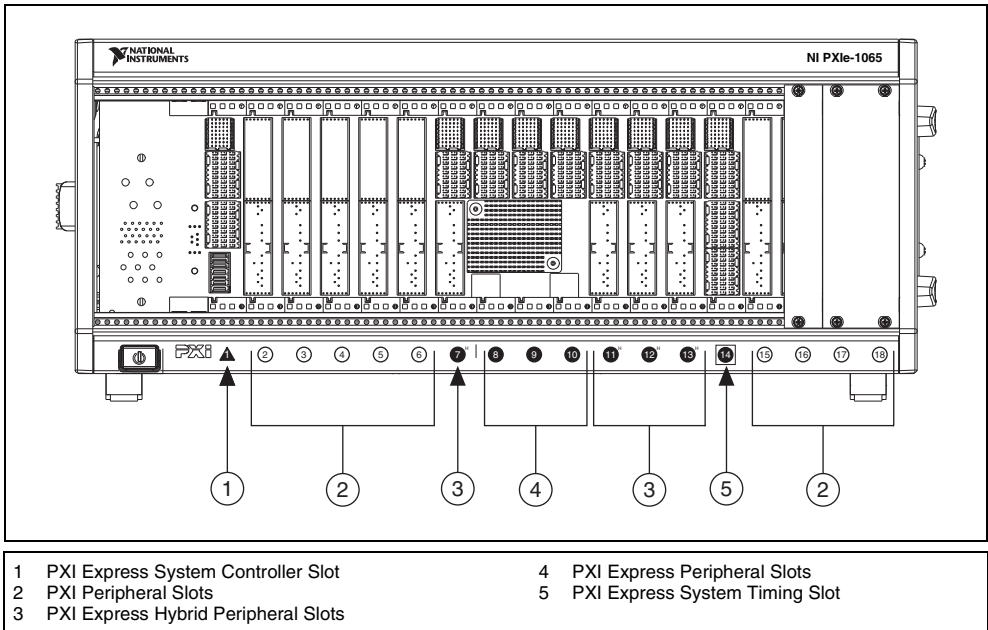

Figure 1. Symbols for PXI Express/PXI Express Hybrid/PXI Slots
3. Identify a supported PXI Express slot in the chassis. The NI 1435 is compatible with PXI Express slots, PXI Express Hybrid slots, and PXIe System Timing slots. Figure 1 shows the symbols that indicate the slot types for a PXI Express chassis.